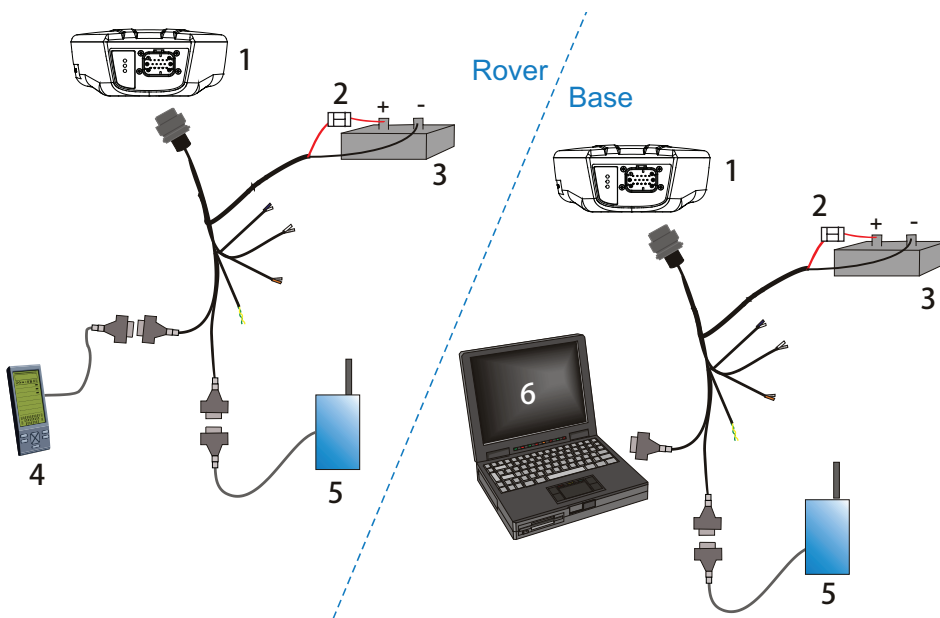

Figure 8: Basic Differential Setup
Before operating the SMART-AG for the first time, please ensure that you have followed the installation instructions in *Chapter 2, Installation and Setup* starting on *Page 21*. The following instructions are based on a COM port configuration such as that shown in *Figure 8 on Page 31*. It is assumed that a personal computer (PC), or laptop, is used during initial operation and testing for greater ease and versatility.
RTK or DGPS corrections can be transmitted from a base station to a rover station to improve position accuracy. The base station is the GNSS receiver, which is acting as the stationary reference. It has a known position and transmits correction messages to the rover station. The rover station is the GNSS receiver which does not know its exact position and can be sent correction messages from a base station to calculate differential GNSS positions. The SMART-AG can be used as a base receiver to transmit RTK or DGPS corrections or a rover to receive the same corrections. An example of a differential setup is given in *Figure 8* on *Page 31*.